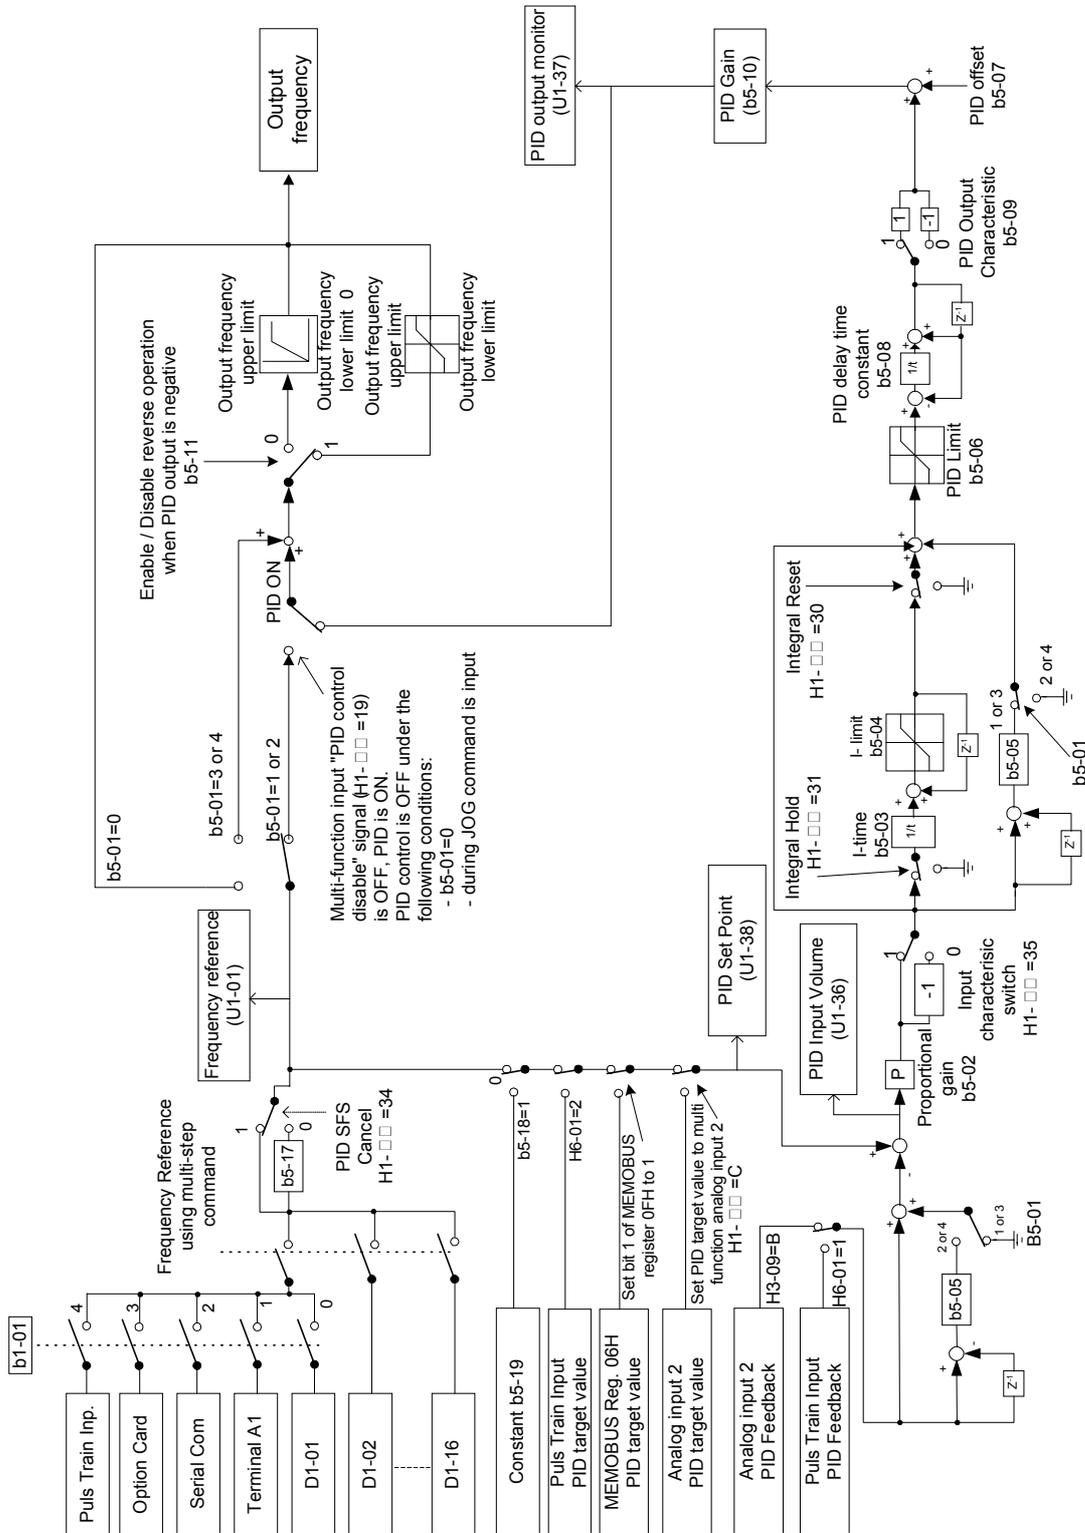

Fig 6.66 PID Control Block Diagram
- Note: The softstarter function works only if the frequency reference input becomes the PID target value (refer to Fig 6.66).